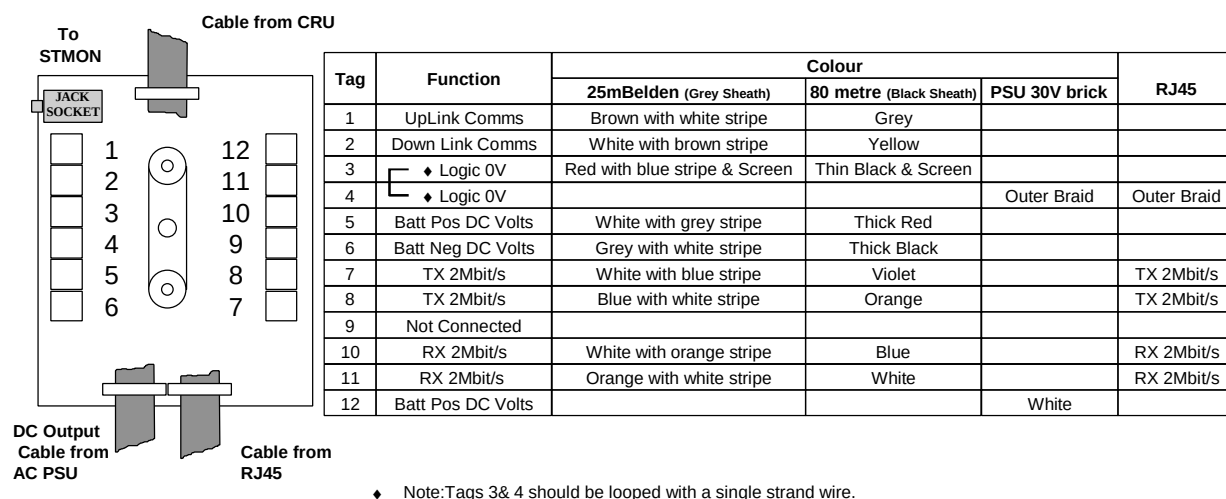
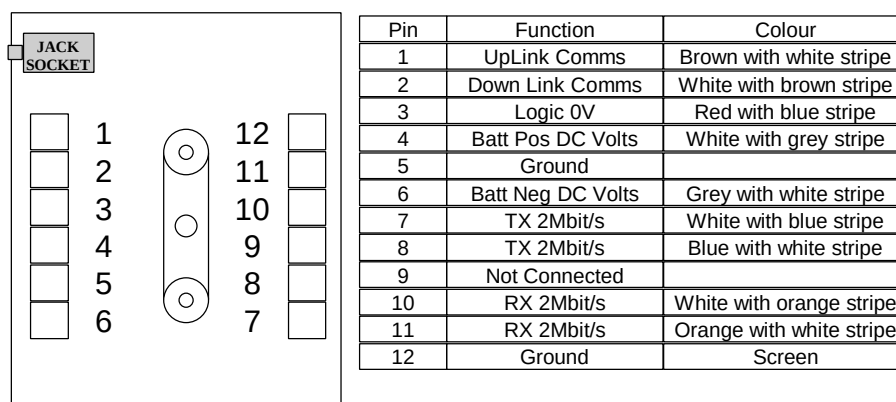

Figure 27. Drop Cable Connections to Junction Box.
Figure 28 Drop Cable Connections to Junction Box. Before Dec 1998
- Figure 27 below, illustrates the connections of the drop cable to the connector blocks inside the Junction Box. Figure 28 shows the order of wire insertion to ensure that the cables fit in the junction box. When connecting the thick stranded wire ensure that the screws are fully undone and the hole fully opened to allow the wire to be inserted without displacing strands. A wire loop should be inserted between tags 3 & 4.